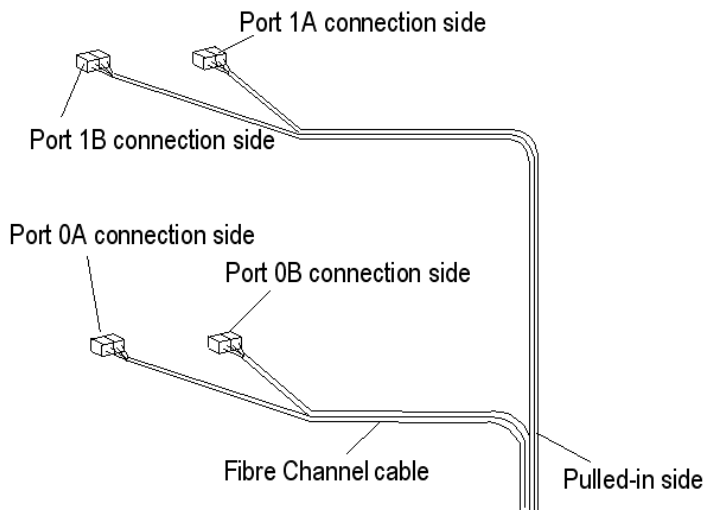

Figure 5-39: Binding Fibre Channel Cables Together.
3. Using the reusable cable ties provided, bind the cables together and fasten them securely to the rack at enough places to keep the cables close to the rack over their entire length. Leave extra length for each cable so that the connectors will not be pulled out of the sockets. See Figure 5-39.